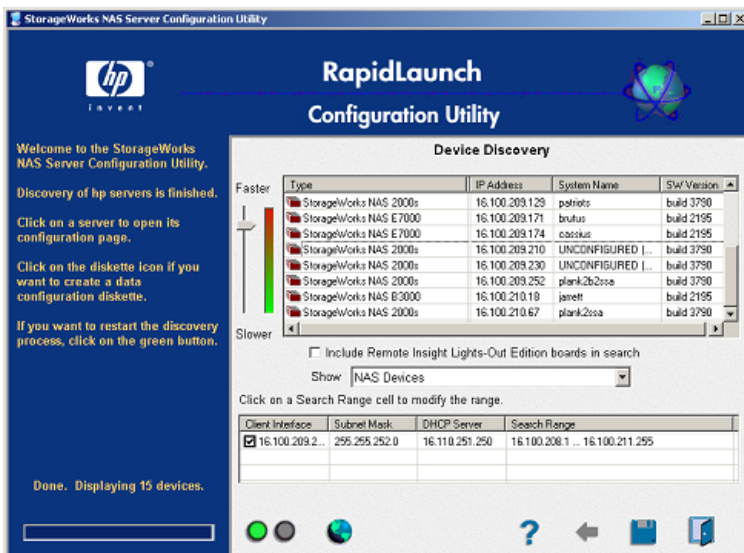

Figure 5: RapidLaunch device discovery screen
8. All the NAS devices found on the network are displayed as shown in Figure 5. It may take several minutes for the NAS device to be found on the network.